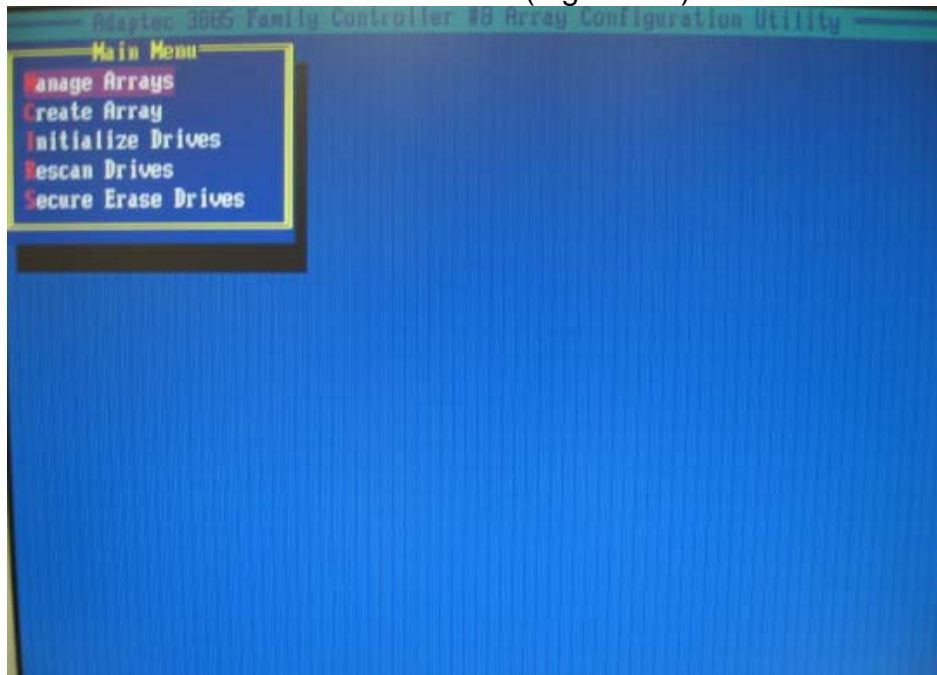

Figure 6-4 Create Array
3. Select Create Array from the menu and press Enter. (Figure 6-4)